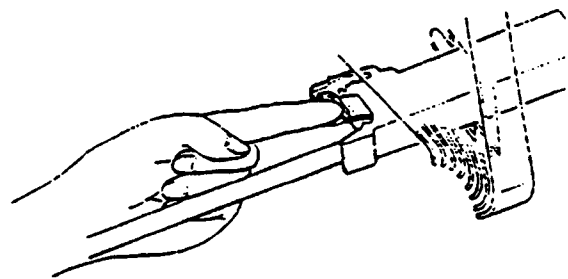

Figure 6.5
- (7) Bring the ribbon cassette to the middle of the recorder, then change it from the right hand to the left hand to prevent the right hand from coming into contact with the pen carriage. Insert half of the cassette into the square hole on the right side plate and push the angled section at the end of the cassette. (Figure 6.5)